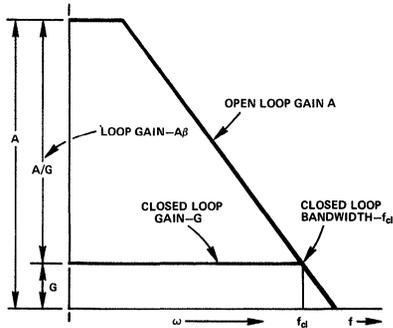

Figure 4. Closed Loop Bandwidth and Loop Gain
2. *What closed-loop gain and bandwidth are required?* Closed loop gain, G , is dictated by the application. For V/V amplifiers, to a first approximation the intersection of the open- and closed-loop gain curves in Figure 4 gives the closed loop bandwidth, f_{c1} (-3 dB). For high gain, wideband requirements, it may be necessary, or more economical, to use two amplifiers in cascade each at lower gain. For transimpedance amplifiers, f_{c1} changes little over a wide range of gain as set by the choice of R_1 .
3. *What loop gain is required or alternatively what gain stability, output impedance and/or linearity are necessary?* The available loop gain at a particular frequency or over a range of frequencies is very often more important than closed-loop bandwidth in selecting an amplifier. Loop gain as illustrated in Figure 4, is defined as the difference, in dB, or as the ratio, arithmetically, of the open- to closed-loop gain ($A\beta = A/G$). You will find in most of the equations defining the closed-loop characteristic of a feedback (V/V) amplifier that the loop gain ($A\beta$) is the